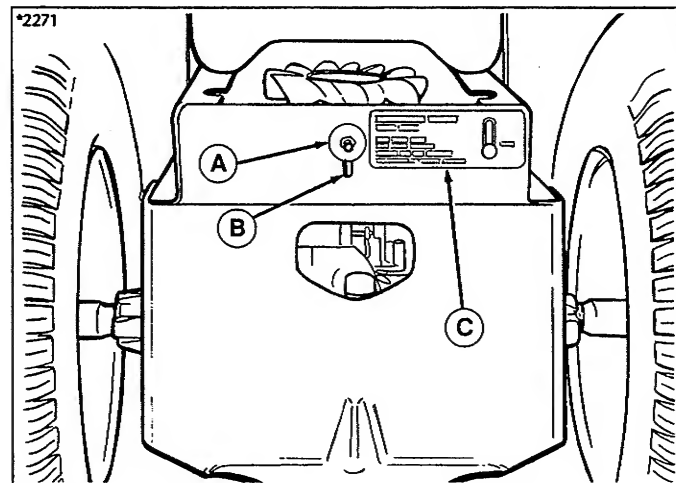

Figure 9.
To push the tractor by hand, the transmission release lever (A, figure 9) must be engaged (bottom of slot).
To drive tractor, the release lever must be placed back in the "drive" position (top of slot). Refer to figure 9 or decal (C).